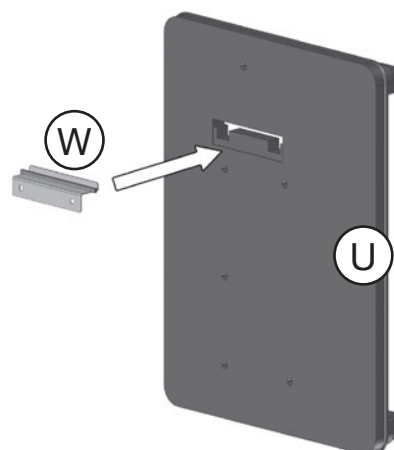

Fig. 4.2: Insert the angled wall bracket into the rear insulation shell
4. Insert the angled wall bracket (W) into the rear insulation shell (U) from the back (Fig. 4.2).